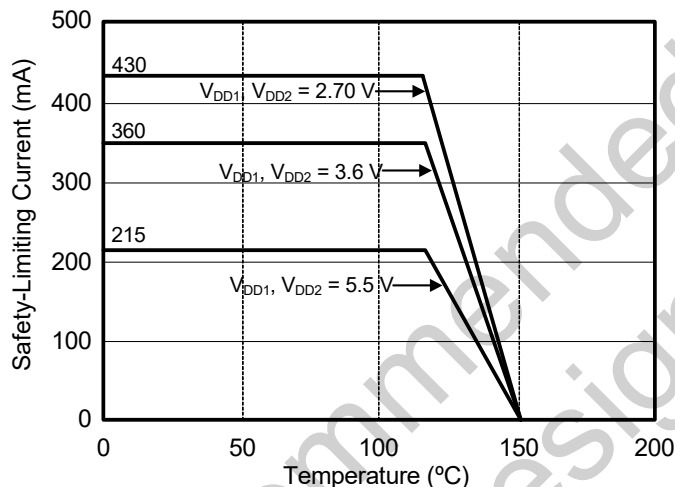

Figure 2. (NB SOIC-16) Thermal Derating Curve, Dependence of Safety Limiting Values with Case Temperature per DIN EN 60747-5-2
1. Maximum value allowed in the event of a failure; also see the thermal derating curve in Figure 2.